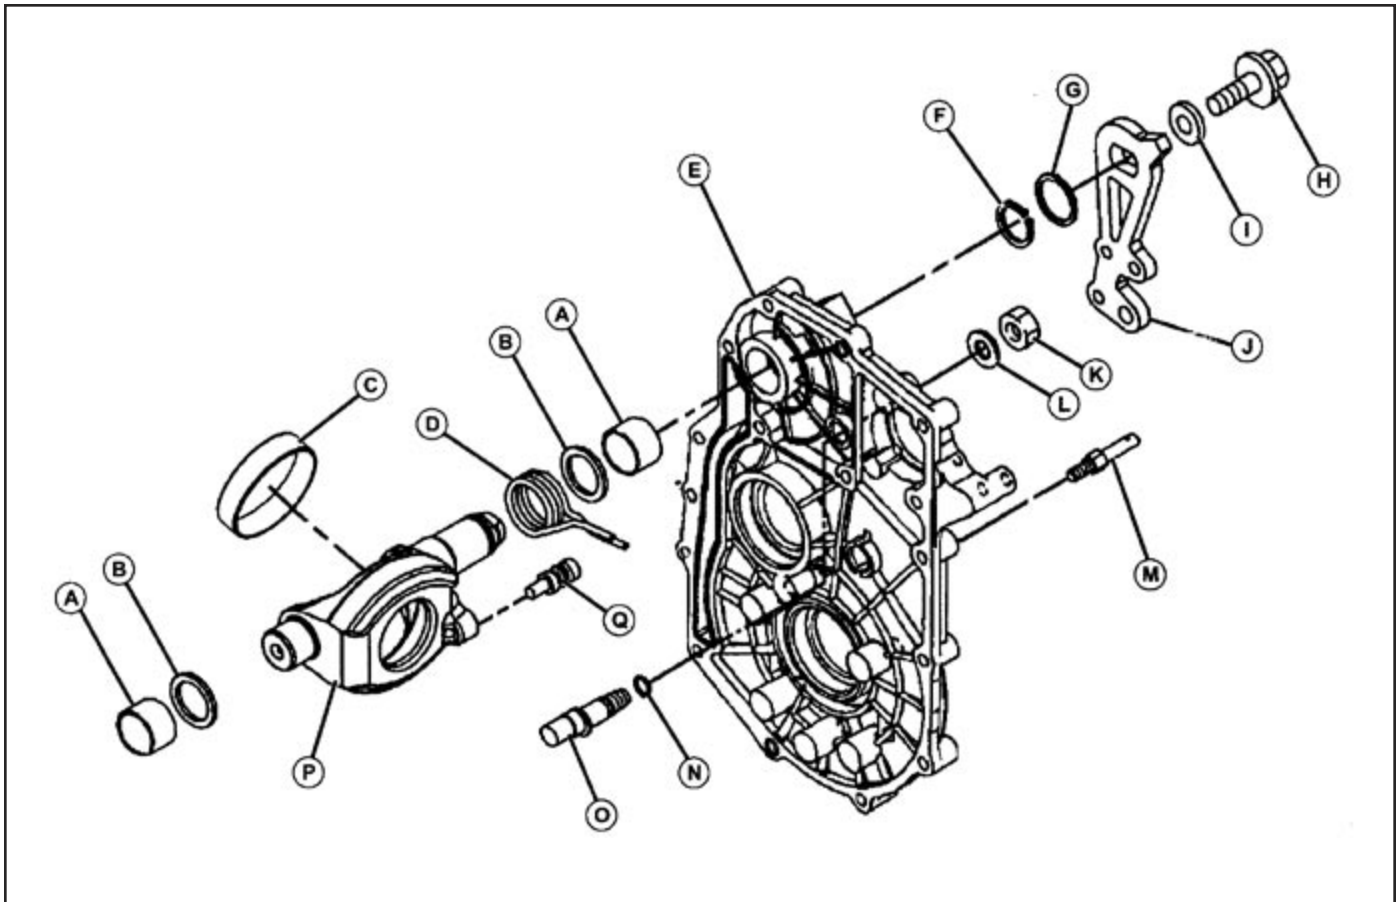

Fig. 66, Transaxle (Right Cover) Disassembly
1. Remove nut (H), washer (I), and snap ring (F). (Fig. 66)
2. Pull swash plate from cover (E).